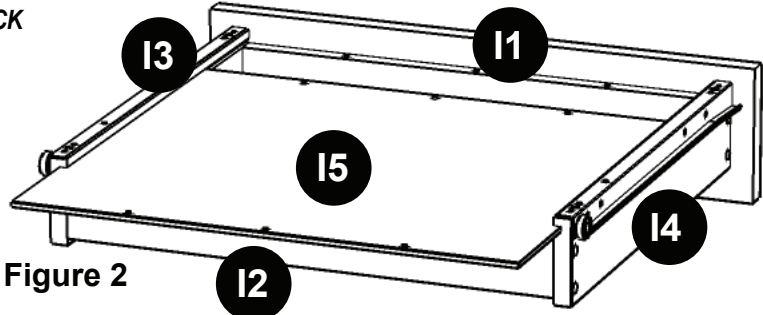

Figure 2
Attach Front Rails (D) and Back Rail (E) to Divider (F) with Head Cap Bolts (long). (see Figure 2)
Slide I5 into the grooves in I3 and I4. Push I5 all the way forward so it meets I1. (see Figure 2)